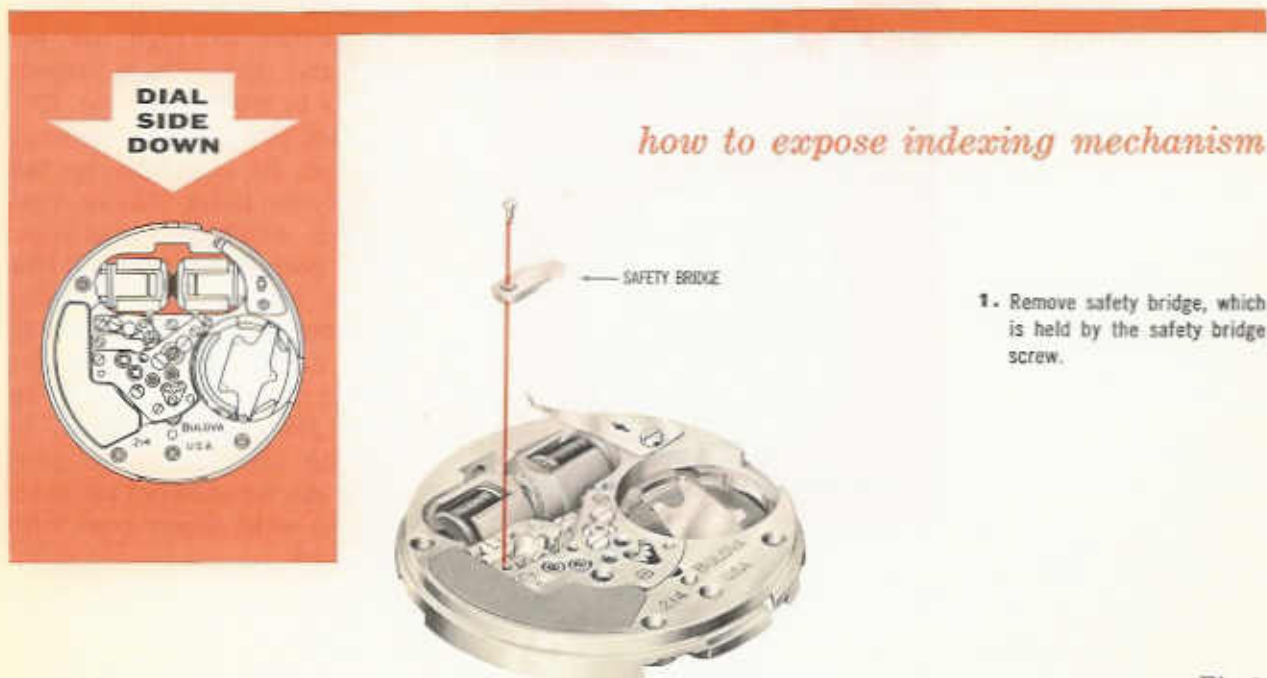

Fig. 8
1. Place dial down on movement holder and remove safety bridge (See Fig. 8, page 13).